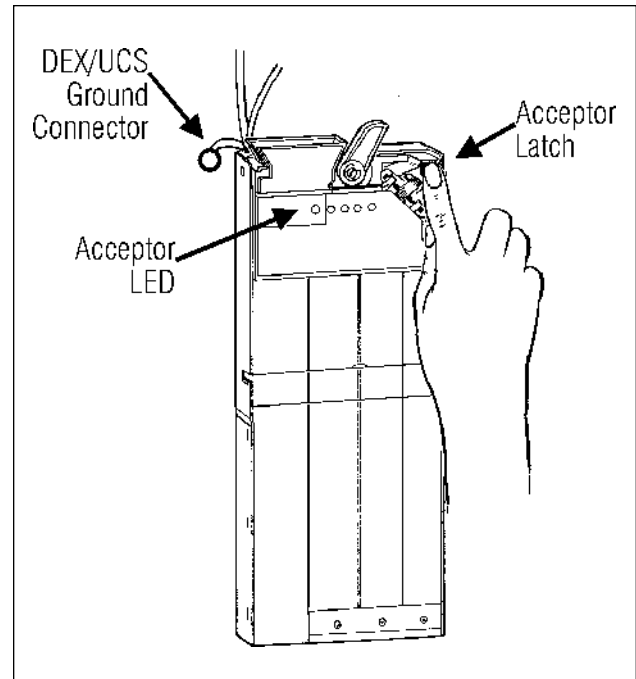

Figure 1
2. Remove the acceptor from the changer by releasing acceptor latch and rotating the top of the acceptor forward, away from changer (see Figures 1 and 2). Unplug ribbon cable from changer. Free acceptor studs from changer housing. Place the acceptor in a clean area.
5. On units that use a DEX/UCS Hand-held Computer, attach DEX Plug Ground Connector to the vending machine frame (see Figure 1).